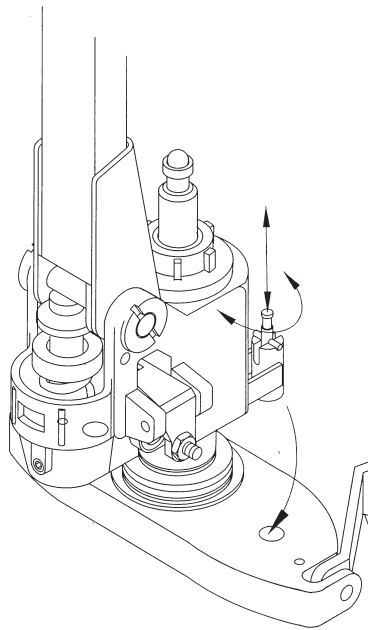

Figure 6 – Arm Detent
2. Rotate handle to either side and lock pump assembly in position with Arm Detent. Pull detent up and rotate 90° until pin drops into hole located in Base. (See Figure 6).